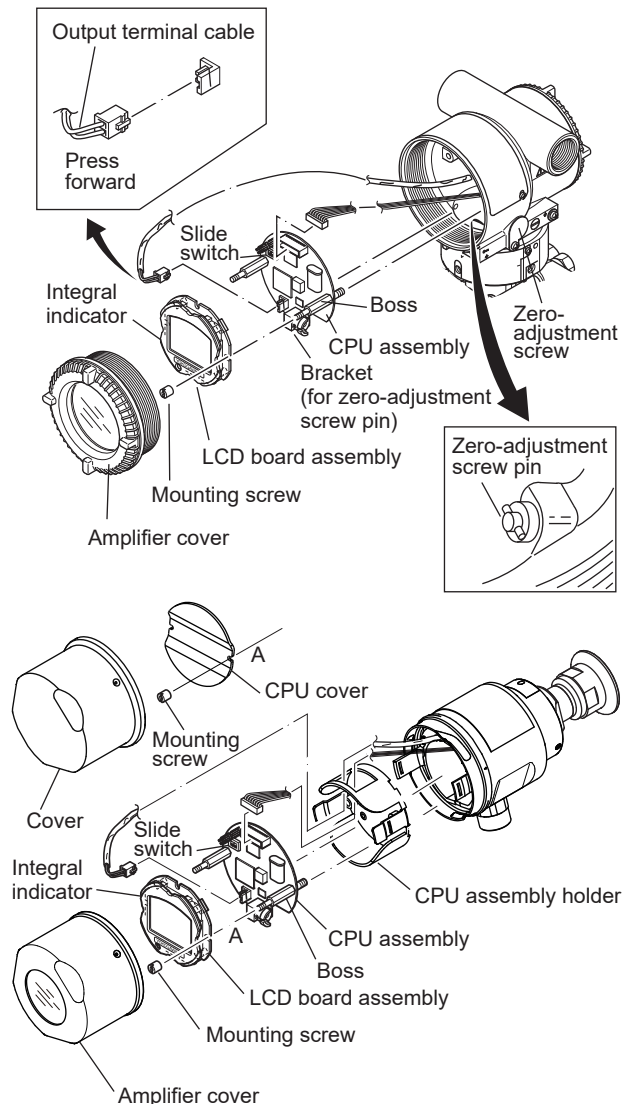

Figure 7.2 Removing and Attaching LCD Board Assembly and CPU Assembly
This subsection describes the procedure for replacing an integral indicator. (See figure 7.2)
This subsection describes the procedure for replacing the CPU assembly. (See figure 7.2)
- 2) Turn the zero-adjustment screw to the position (where the screw head slot is horizontal) as shown in figure 7.2.